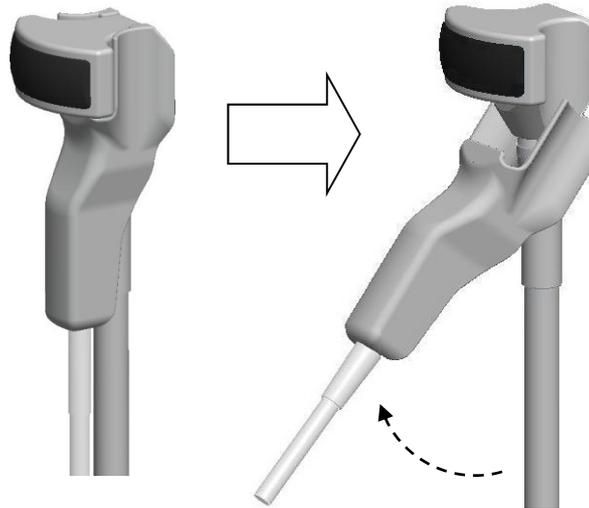

Fig.11 How to release the Magnetic sensor attachment from the probe
- 1) Detach the Magnetic sensor attachment from the probe as shown Fig.11 in the out of operative field.